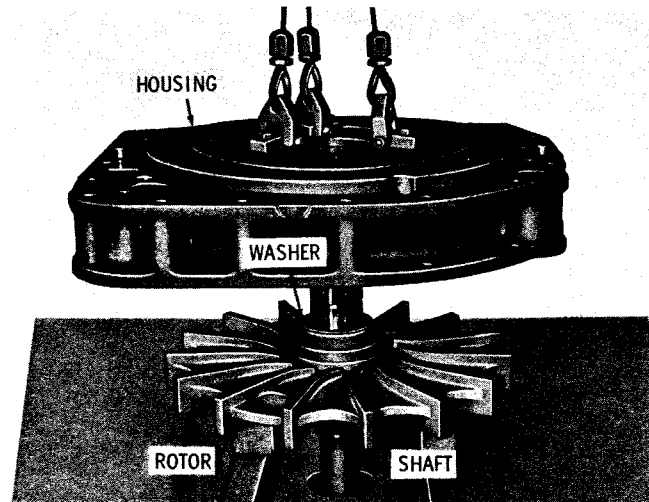

Fig. 7-47. Installing retarder housing onto retarder rotor and turbine shaft (CBT, CLBT, VCLBT, after S/N 35992)
(13) Install the splined spacer onto the rear of the turbine output shaft (fig. 7-47). Install the hydraulic retarder housing onto the assembled shaft and rotor.